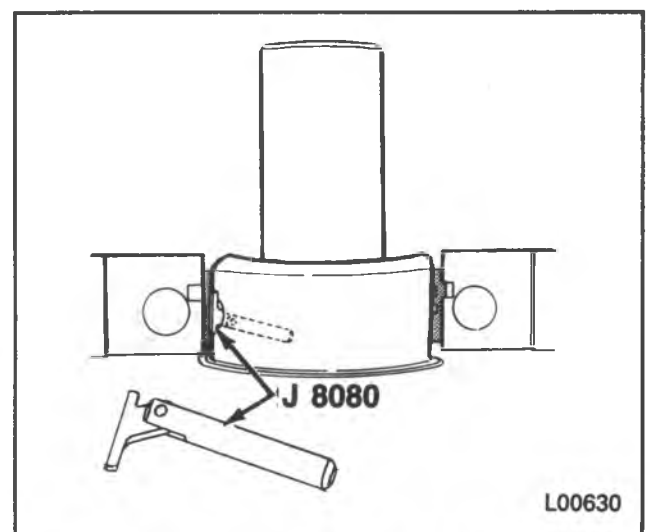

Figure 32 — Removing the Main Bearing Insert
Remove or Disconnect (Figure 32)
- Insert J 8080 into the crankshaft oil hole (figure 32).
Install or Connect (Figures 32 and 33)
- Insert tool J 8080 into a crankshaft main bearing oil hole (figure 32).